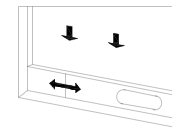

Figure 7
1.4.1 Half open the window and place the window spacer component onto the window (as shown in Fig. 7 and 8). The components could be placed horizontally and vertically.